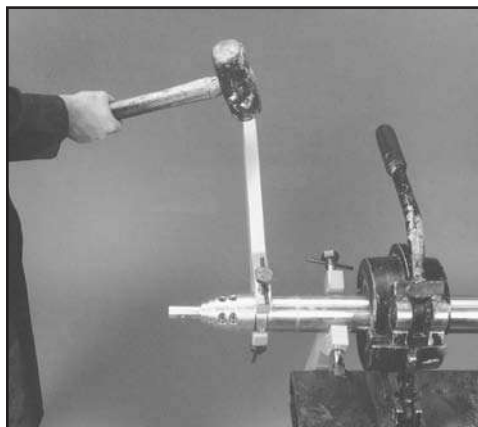

FIG. 23: UNSCREWING THE FRONT CASING AND CHISEL
3. Loosen the casing tip with another spanner wrench and unscrew the casing tip out of the casing by hand (see Fig 23).